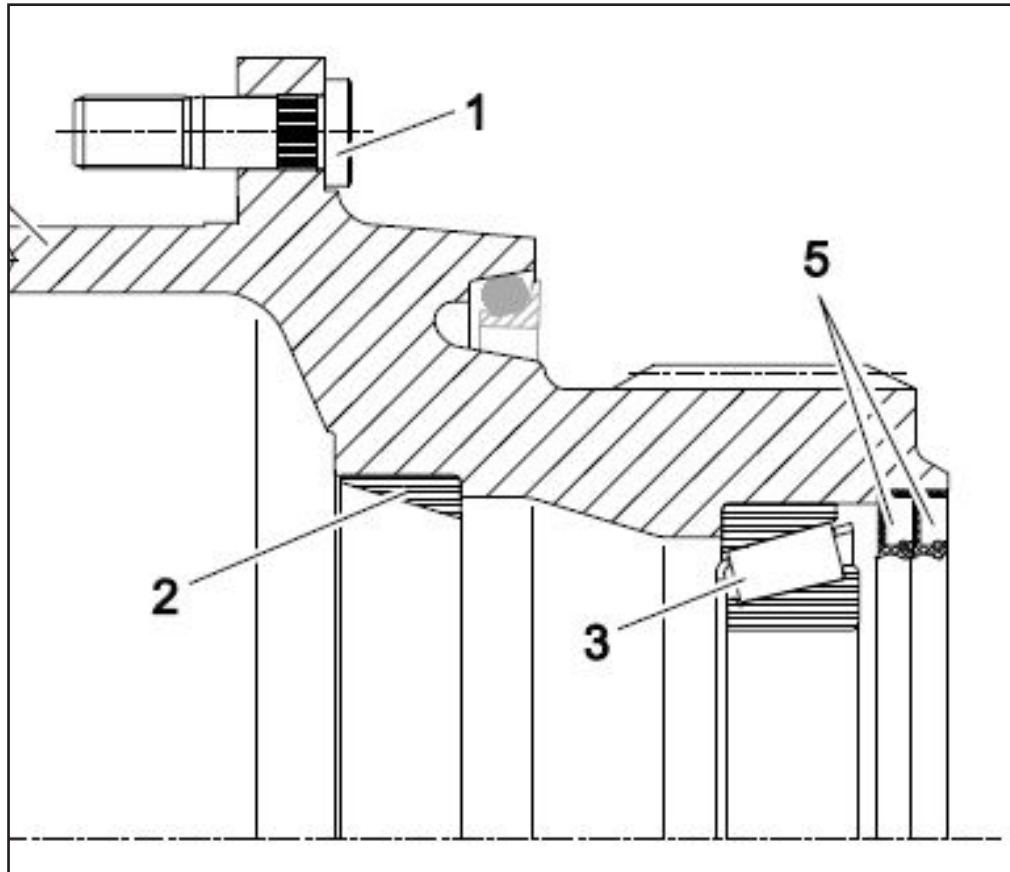

Figure 8
- Prepare and mount the wheel hub, see (Figure 8).